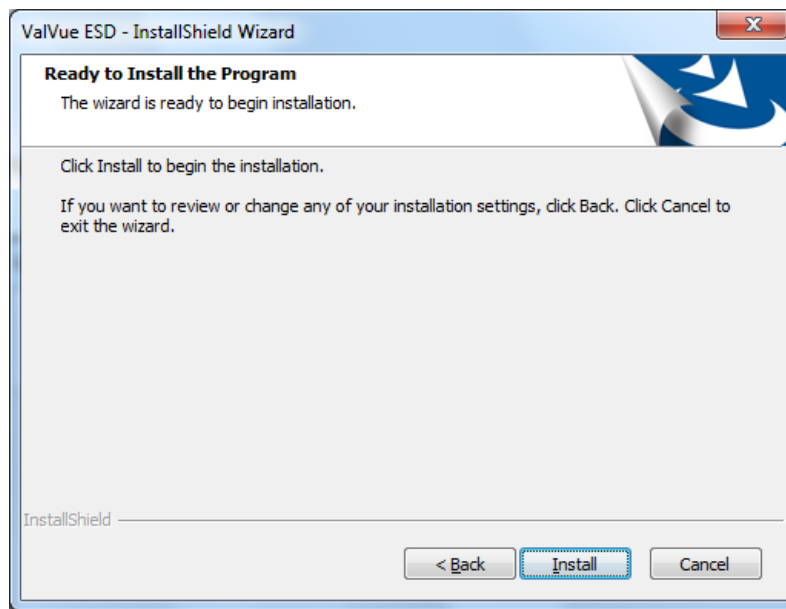

Figure 11- Ready to Install
6. Click **Next** and a screen appears (*Figure 11*).